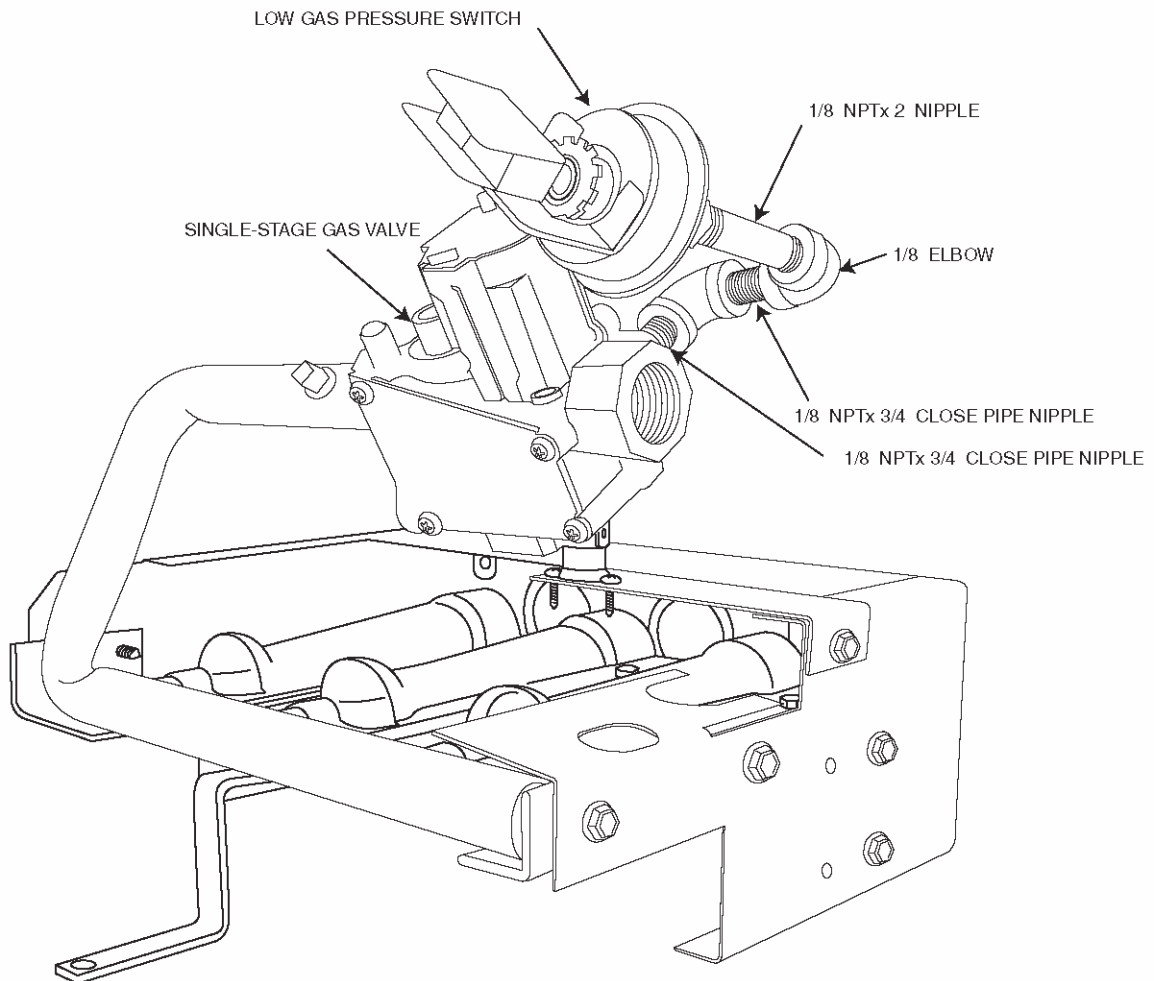

Figure 9
4. Remove the screw attaching the gas manifold to the basepan, and partially slide out the entire burner rack assembly from unit. Save screw. The fan partition mounting bracket may be removed for easier access to the burner assembly. The bracket may be removed by removing 2 screws (located on the left side of the control compartment on the fan partition panel) and sliding the bracket forward, bottom first. See Fig. 9.
23. Reconnect the blue wires removed in item 5 to the rollout switch and reinstall the rollout switch.
25. Reconnect the gray and brown wires removed in item 5 to the gas valve.
27. Slide burner rack assembly into base pan. Align burner rack with screws on sheet metal partition and slide assembly back tight to the partition. Replace the screw attaching the burner rack to the base pan removed in step 4. If the fan partition mounting bracket was removed, slide bracket back into place and fasten with 2 screws. See fig. 9.